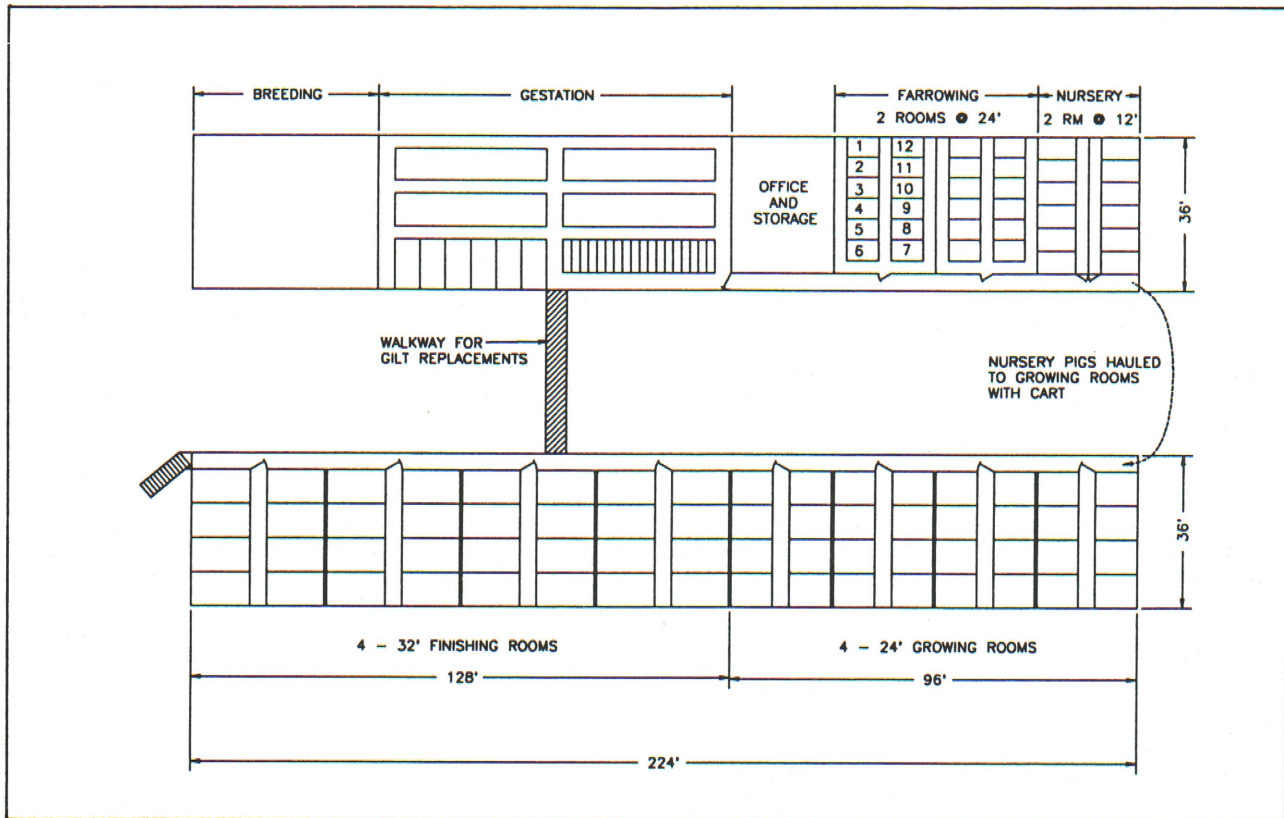

Figure 2. 150-Sow Two-Building All-in/All-out Production Unit.
**Two building system.** Figure 2 shows an arrangement for a two building system also using all-in/all-out management from farrowing to market. These two 36 ft by 224 ft buildings should house a 150-sow herd which will produce approximately 2,500 pigs per year. Each of the two 12-sow farrowing rooms would have sows farrowing once a month so there would be 12 sows farrowing every 2 weeks. After 3 to 4 weeks, the pigs would be weaned and moved to the nursery. They would remain in the nursery for about a month, in the grower for about 2 months, and in the finishing unit for another 2 months making them ready for market by 6 months after farrowing.